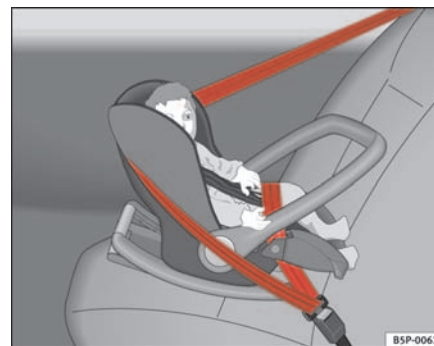

Fig. 27 A group 0 rear-facing child seat fitted on the rear seat.
**Group 0:** For babies from about 9 months old and 10 kg in weight the most suitable seats are those appearing in the illustration ⇒ fig. 27.